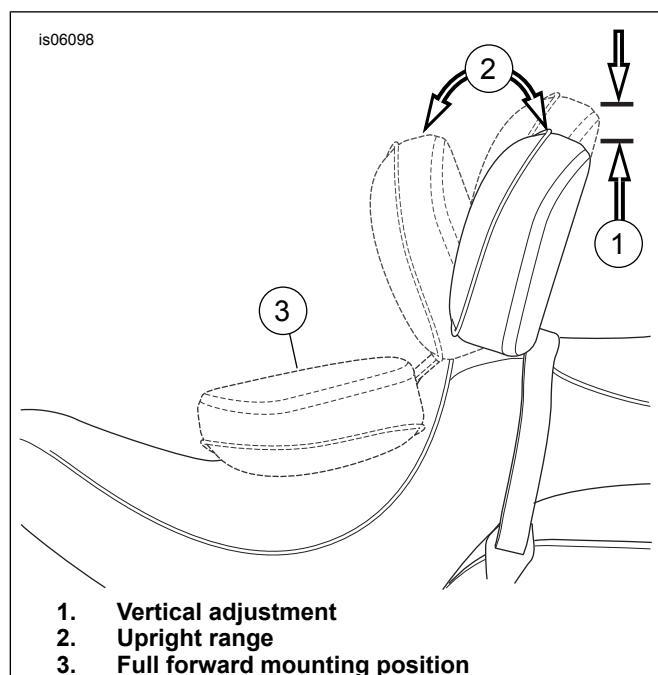

Figure 8. Backrest Postions
7. See Figure 8. With the backrest and seat in place, push the backrest to the fully forward position (3). The backrest mechanism will press against the underside of the seat and against the inserted seat protector.
1. See Figure 8. The adjustment handle is used to move the backrest pad into the forward and rearward positions.
2. To adjust the backrest pad forward or rearward (2), push the handle. Leaning back against the backrest pad will help adjust it rearward. Keeping your weight off of the backrest pad while pushing on the handle will cause the backrest to come to its full forward position. Releasing the handle will lock the backrest into place.
3. To adjust the backrest pad up and down (1), pull the knob on rear of pad. Move the backrest up or down into the desired position then release when the pad is in the desired position.